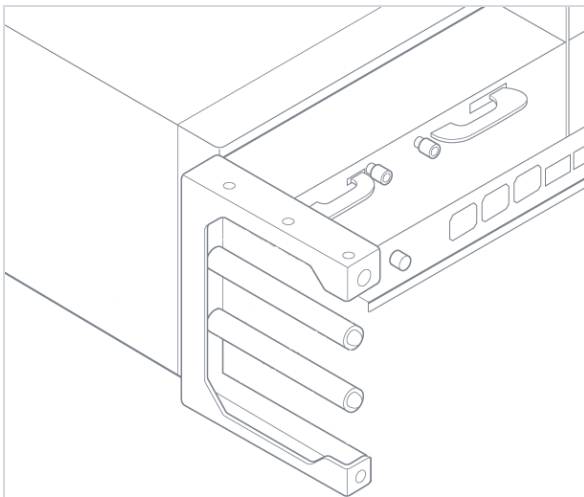

Figure 7: Cable Management Sides
2. Attach the cable management sides to the left and right of the chassis. Attach two screws on each side of the chassis as shown in Figure 7: Cable Management Sides on page 63 for the left side.